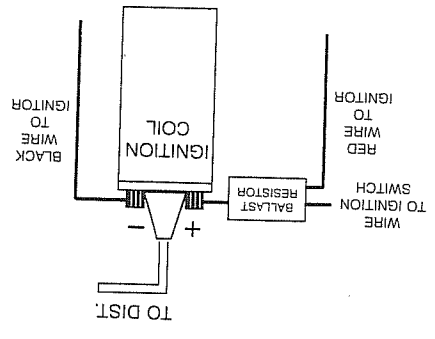

FIGURE 3
3. If your ignition system presently is equipped with a ballast resistor, do not remove it. (See Figure 3).
13. For installations that use a primary ballast resistor, connect the *Ignitor* red wire to the ignition switch side of the resistor. (See Figure 3).